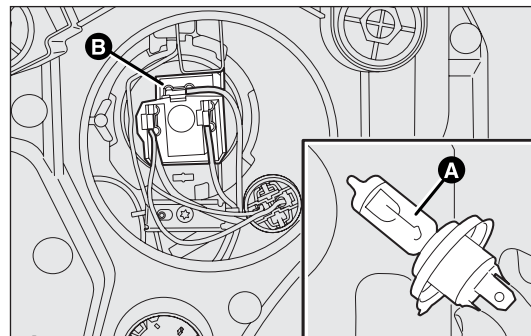

fig. 139
- disconnect the central electric connector B-fig. 139 and release the bulb holder catch;